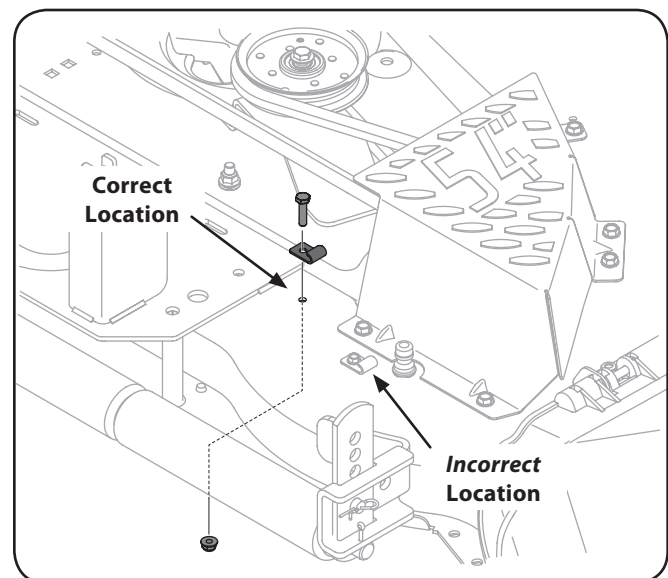

Figure 1-2
1. Locate the hole labeled Correct Location in Fig. 1-2.
2. Secure the retainer clip to the cutting deck using the hex bolt and flange nut provided. See Fig. 1-2.